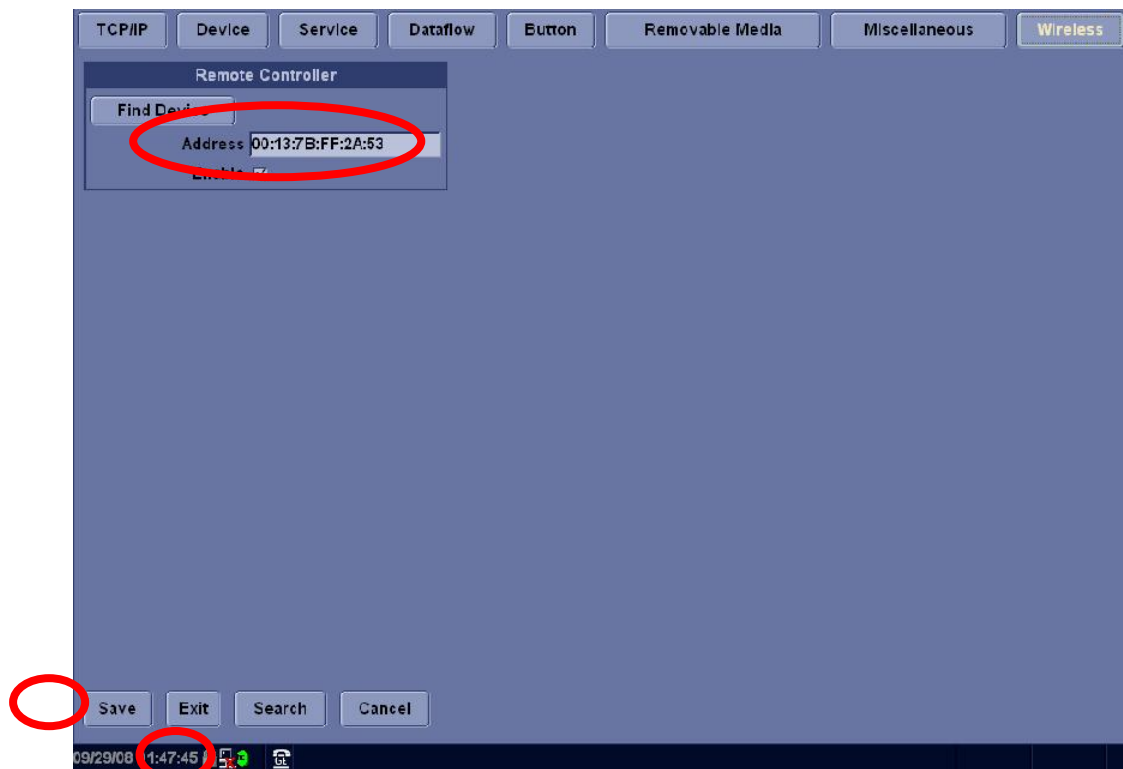

Fig.5 Checking Pairing
- 7) Check notification of Address and then click 'Save'(Fig.5)
- 8) Check that 'RC' icon is to be green low of the left.(Fig.5)